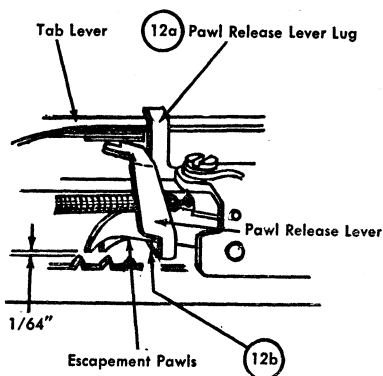

Figure 28. Pawl Clearance Adjustment
12. PAWL CLEARANCE. (a) The rear upright lug on the pawl release lever is formed to remove the escapement pawls $\frac{1}{64}$ " from the escapement rack during tabulation. (b) The two pawls are drawn from the rack an equal amount. Unevenness may be corrected by forming the lower lug on the pawl release lever that contacts the pawls (Figure 28).